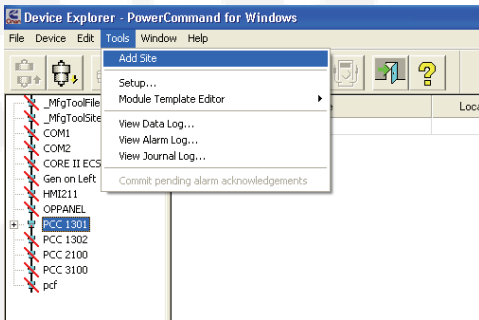

FIGURE 2-31. ADD SITE
1. Go to **Tools** -> **Add Site** (see Figure 2-31).